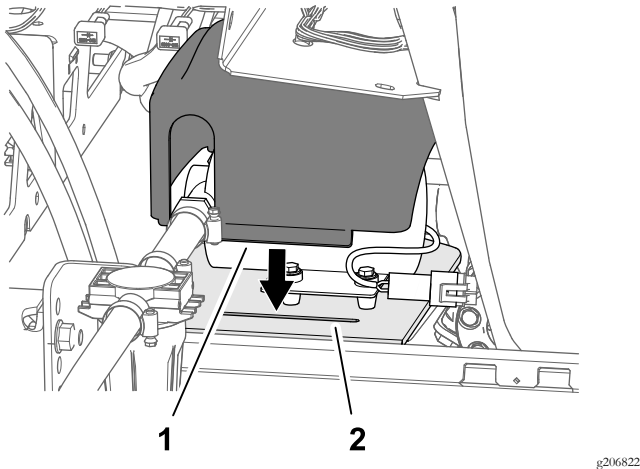

Figure 32
1. Align the pump cover over the rinse tank pump as shown in Figure 32.
2. Insert the 2 tabs of the cover into the 2 slots in the saddle plate of the tank frame (Figure 32).